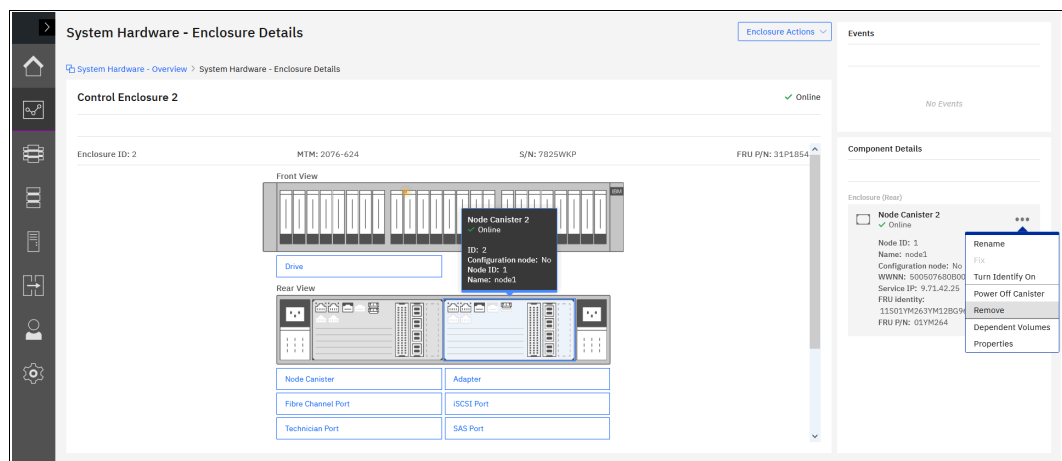

Figure 13-9 Removing a node by using the GUI
1. Select **Monitoring** → **System**, and then, select the relevant control enclosure that the node you want to remove is on, which opens the Enclosure Details window. Select the node and right-click it and click **Remove**, or use the menu in Components Details to remove it (see Figure 13-9), which opens a confirmation window.
Note: If you want to remove an entire control enclosure from the cluster to reduce the size of the cluster or to decommission it, you can do this task by using the GUI. Go to the Enclosure Overview window, as shown in Figure 13-9 on page 902, but instead of selecting a node, select **Enclosure Actions** and then **Remove**. A confirmation window opens. This action runs the **rmnodecanister** command against both nodes in the control enclosure. For more information about removing an enclosure, see IBM Documentation and search for “Removing a control enclosure and its expansion enclosures”.